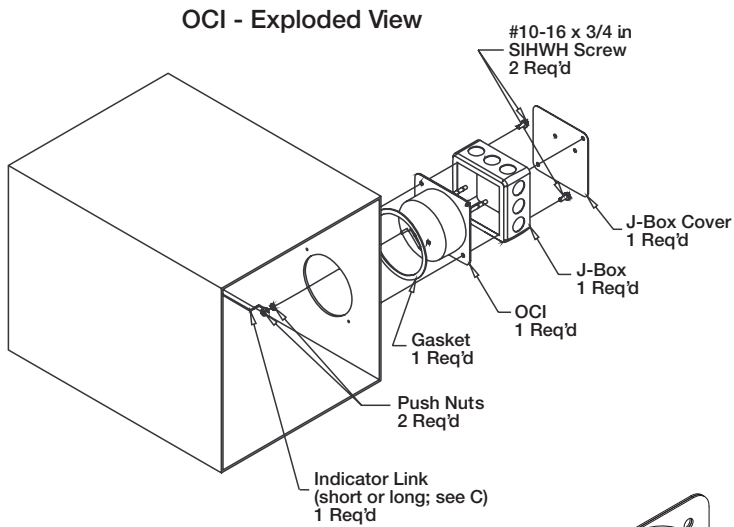

Figure 5: OCI -Exploded View
4. Insert OCI unit through the hole in the sleeve (round end inside). See **Figure 5**.
6. Mount OCI/J-box assembly to the sleeve/sideplate with #10 - 16 x 3/4 in. (19 mm) self-drilling screw (or equivalent) (Figure 5).